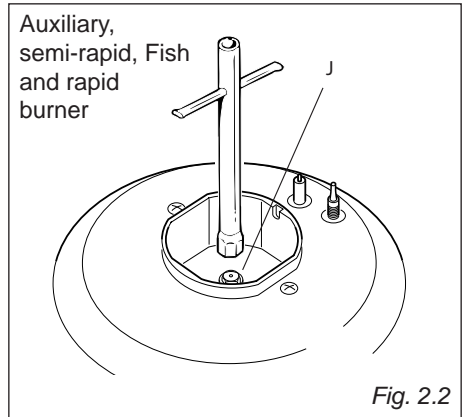

Fig. 2.2
- Using a wrench, substitute the injectors “J” (figs. 2.2, 2.3, 2.4) with those most suitable for the kind of gas for which it is to be used.